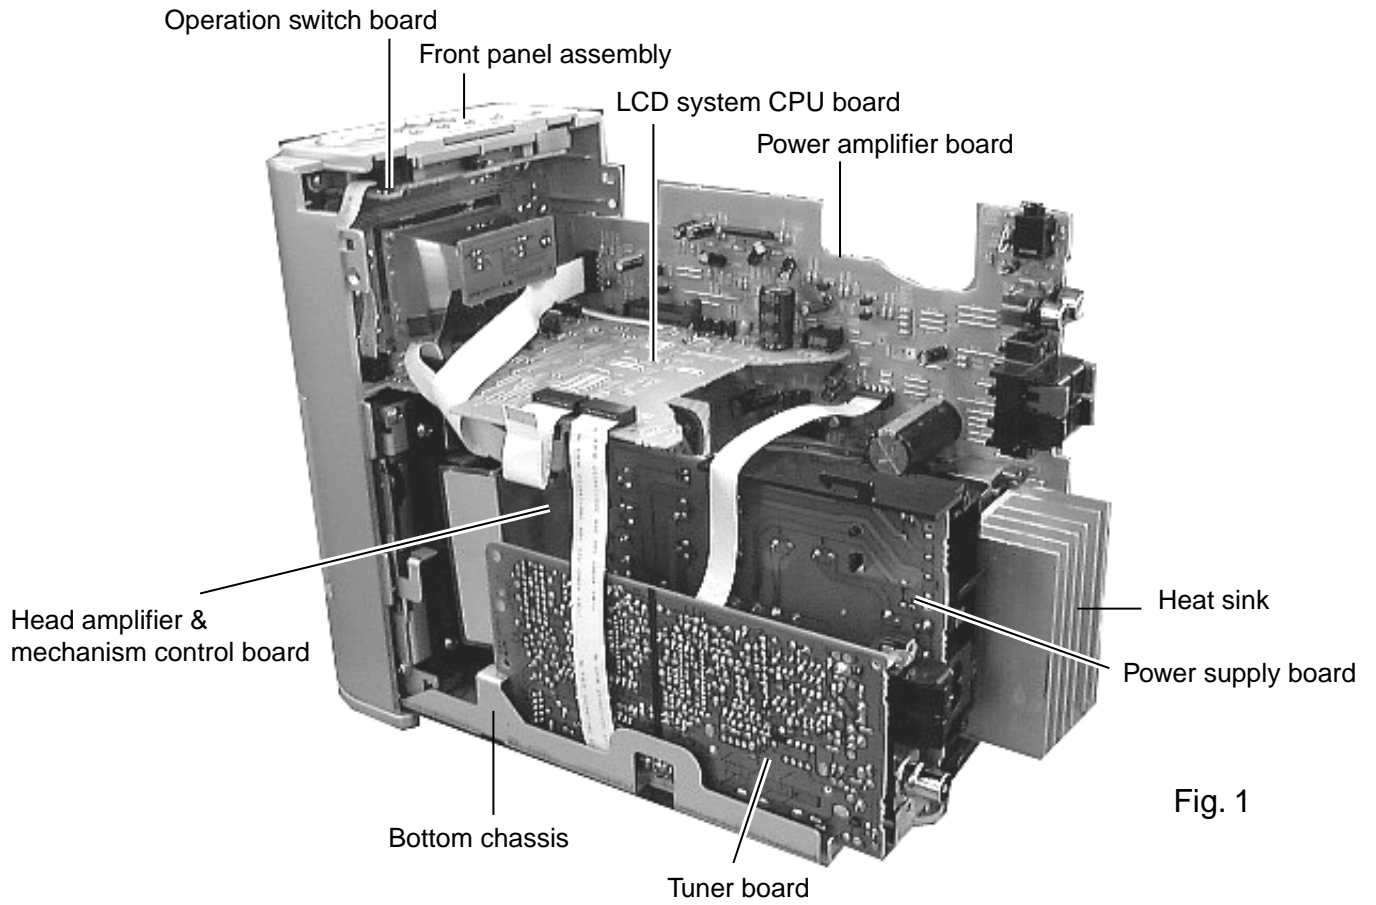

Fig. 1
■ Removing the rear panel (See Fig. 1 and 2)